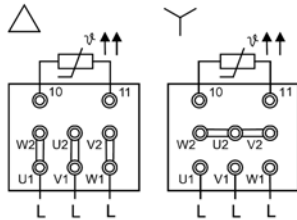

Figure 4 Delta/star connection with thermistor (e.g., PTC)
- a) Devices for direct temperature monitoring using thermistors (Figure 4).